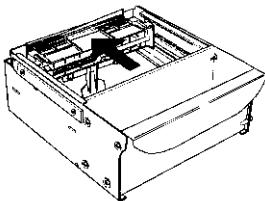

Figure 4-23. Release packer plate.
4. Release the pusher plate against the notes. When loading the note tray to full capacity, make sure that the pusher plate has a leeway of approximately $\frac{1}{4}$ -inch (5 mm) between the wall plate and the pusher plate (Figure 4-23).